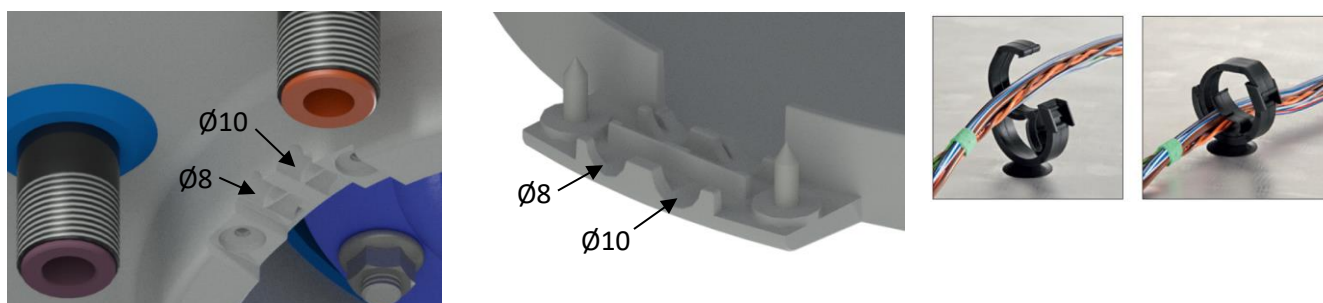
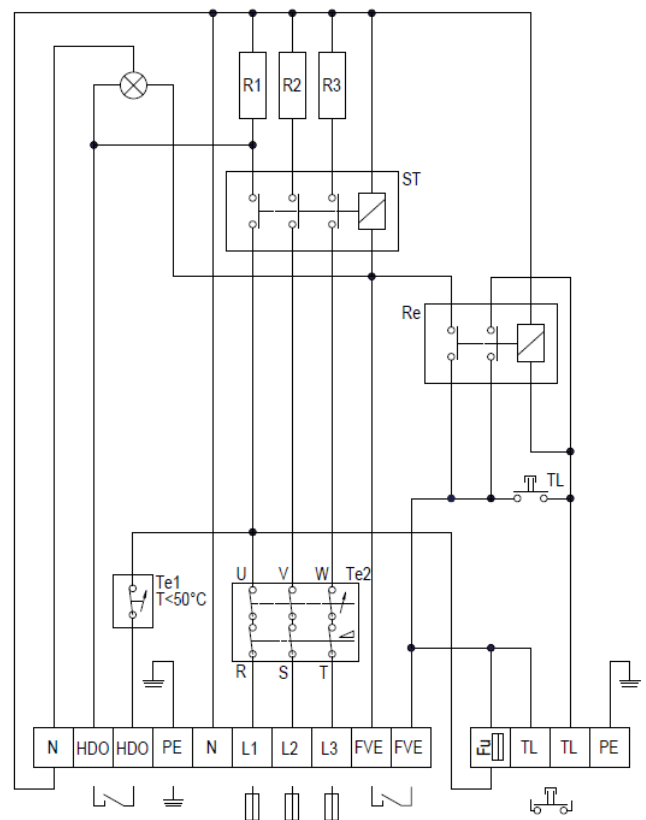

Figure 6
Figure 7
Execute the connection as indicated in the wiring diagram. Factory connection must not be changed! (Figure 7) In the electric wiring cabinet remove the partition corresponding with the input wire diameter of  $\phi 8$  or  $\phi 10$  (Figure 6). The degree of protection of the electrical parts of the heater is IP 44. Power input of electric element is 3x2000 W. Use pre-installed brackets to hold the lead cable.
- The wiring diagram is attached to the heater on the side of the electric installation guard (Figure 7).